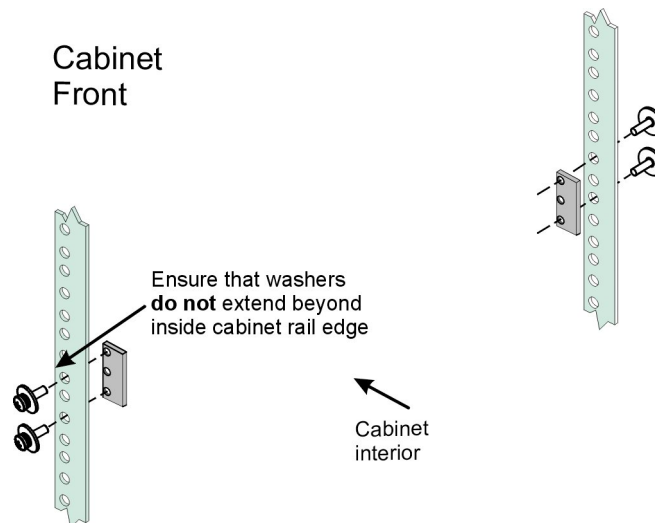

Figure 2.1. Three-Hole Bar Nut Alignment
3. Using a #2 Phillips screwdriver and eight (8) of the ten pan-head Phillips screws (#10 x 1/2) and, if you are installing the server in an HP 9000, 10000 or 11000 rack, eight (8) square alignment washers, attach four (4) three-hole bar nuts to the rack-mounting standards as follows:
- a. Align each three-hole bar nut with the rack-mounting standard as shown in Figure 2-1. Ensure each bar nut is mounted with the narrow side (drilled holes-to-edge side) facing the inside of the cabinet.
Figure 2-1 depicts the right-side rails of the cabinet. This figure does not depict the square alignment washers required if you are installing the bar nuts in an HP 9000, 10000, or 11000 series cabinet.